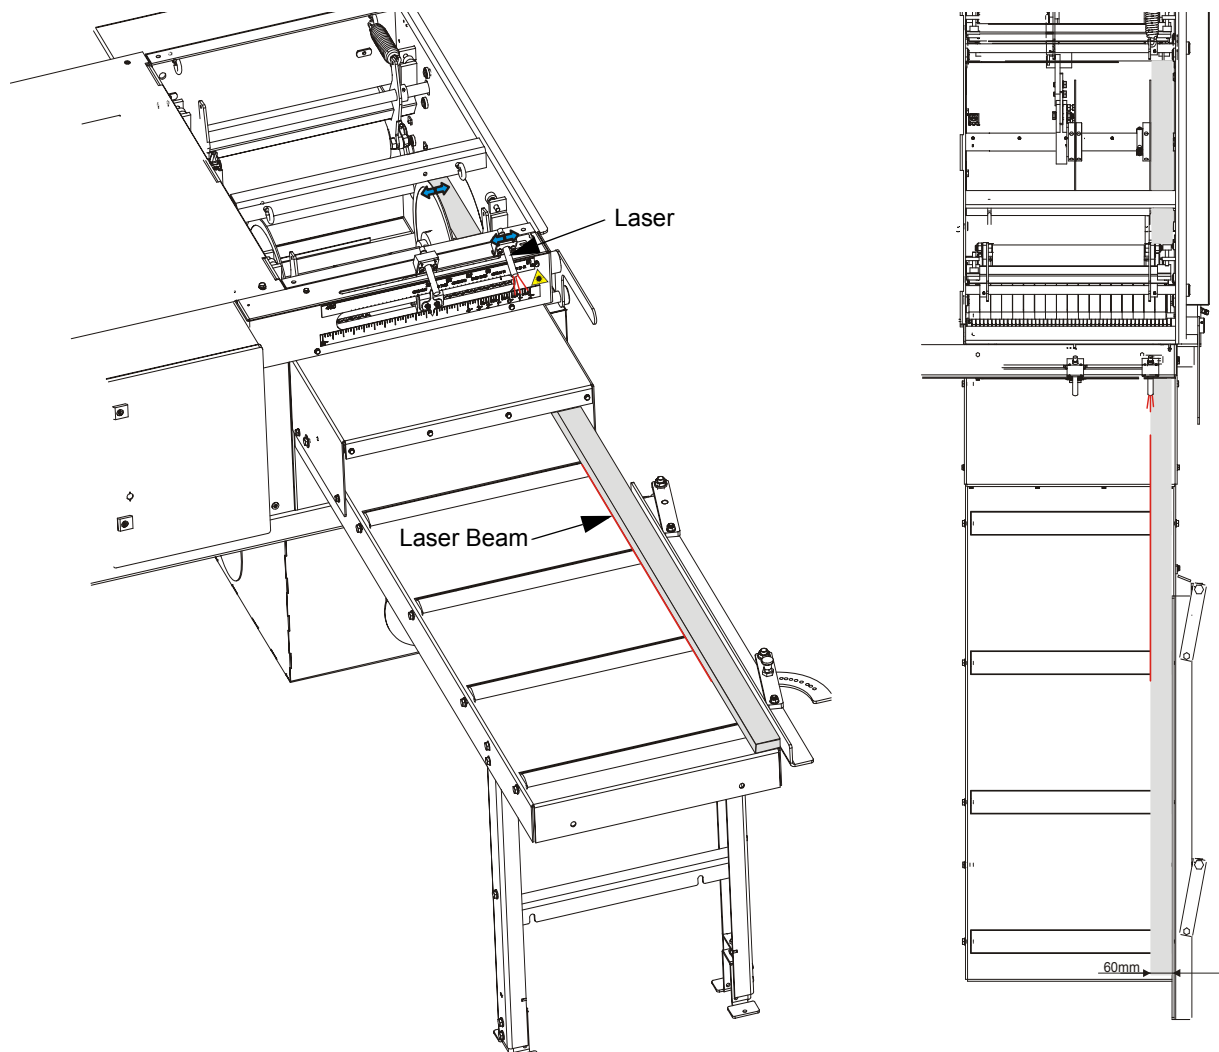

FIG 5-5
3. Place a 60mm wide bar along the outside edge of the blade and so that the bar is aligned with the 0 mark on the scale and the bar meets the fence. See Figure 5-5.
See Figure 5-5.